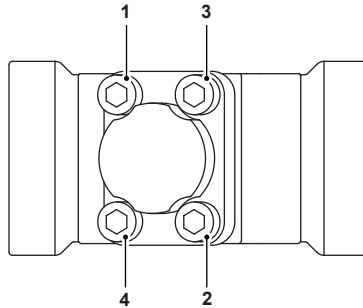

Fig. 8.1
Tighten the cap screws (7) in a diagonal (star) pattern i.e. 1-2-3-4 as shown in Figure 8.1, to the recommended torque value (see Table 1) using multiple passes in accordance with ASME PCC-1 to ensure even gasket compression. Cap screws (7) may not be accessible with standard tools. To ensure appropriate torque is applied, an extended tool may be needed.
- Finger tighten the cap screws (7) until the mating gasket faces are in parallel, intimate contact.
- Tighten the cap screws (7) in a diagonal (star) pattern i.e. 1-2-3-4 as shown in Figure 8.1, using multiple passes in accordance with ASME PCC-1 to ensure even gasket compression.
- Tighten the cap screws (7) to the recommended torque value (see Table 1).